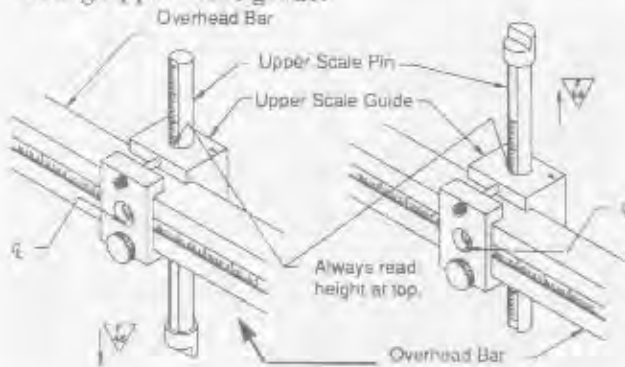

Figure 5
D. All fitting requirements for measurements taken from overhead bar are found on second line of symbols from top of page. Any time a centerline measurement appears on upper body specification sheet, it indicates use of upper scale guide and pin assembly mounted on overhead bar. When using upper scale guide on overhead bar (without rigid tram), an upside down triangle ∇ appears. For example: ∇ . Inside the triangle is attachment to be used and reading for upper scale pin. Below triangle, and to its left, is an arrow indicating direction upper scale pin is to be inserted through upper scale guide. (See Figure 5.) The upside down triangle symbol is only used when measurements are taken directly off overhead bar using upper scale guide.